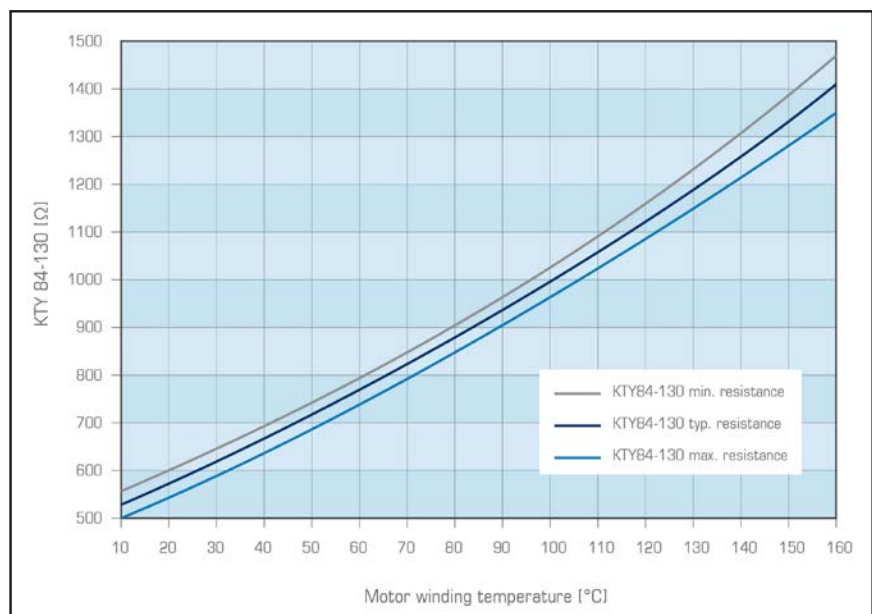

Figure 2 KTY sensors are silicon temperature sensors that have resistance values that change based on its temperature.
**KTY.** KTY sensors are silicon temperature sensors that have a resistance value that changes based on temperature. The relationship between the temperature in the windings and between the resistance value the sensor outputs is linear (Fig. 2). Although KTY sensors are considered the most accurate of the three mentioned, one must compensate for a delayed response since the change in resistance is not instantaneous enough to detect sharp changes in temperature.